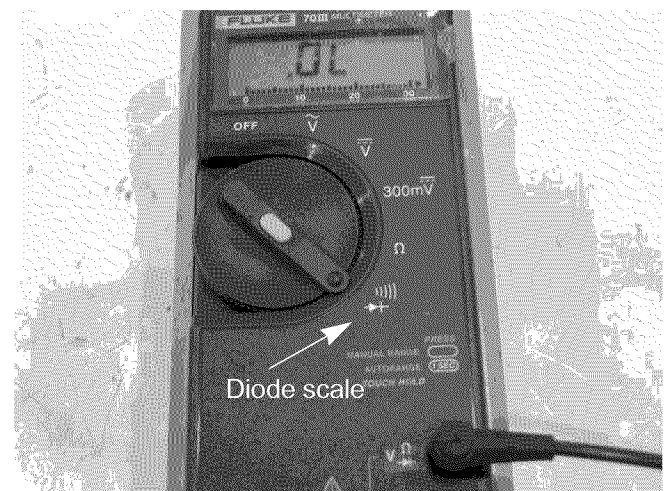

Figure 7.55
2. Set the DVOM to the diode or W scale. See Figure 7.55.